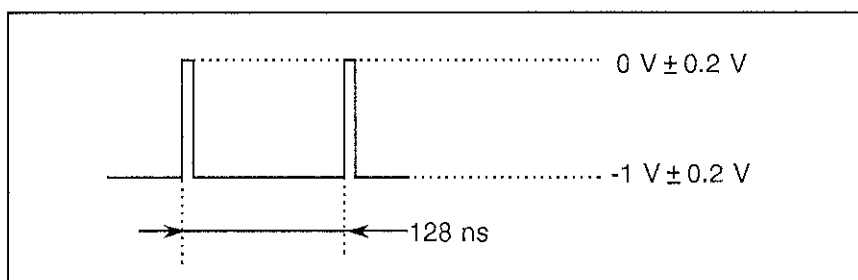

Figure 9-4 Waveform of the PATTERN TRIGGER Output Signal
- (8) If the waveform on the oscilloscope has the period which is similar to the one shown in Figure 9-4, the PATTERN TRIGGER signal is evaluated as normal.